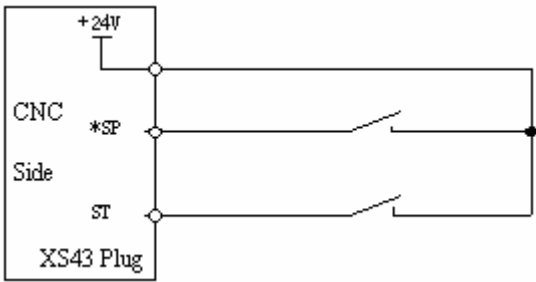

Fig. 4-11-2
*SP, ST external circuit is as Fig. 4-11-2.